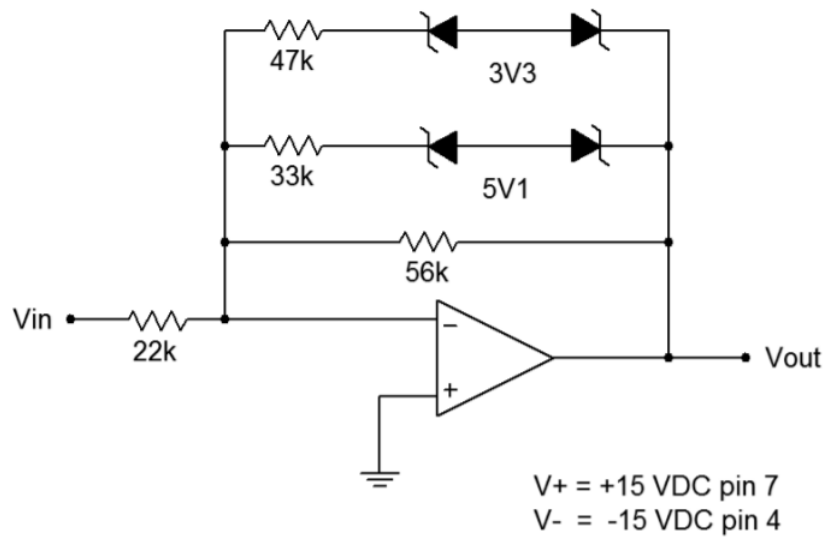

Figure 14.5.2
7. Calculate the break-points and slopes for the input/output transfer curve of the circuit in Figure 14.5.2. Record these values in Table 14.7.2.
8. Assemble the circuit of Figure 14.5.2.
11. Continuing with the circuit of Figure 14.5.2, estimate and then measure the results for each individual error presented in Table 14.7.3.
2. What happens in Figure 14.5.2 when the $33\text{k}\Omega$ and $47\text{k}\Omega$ are swapped?
4. What is the effect of increasing the $22\text{k}\Omega$ in Figure 14.5.2?